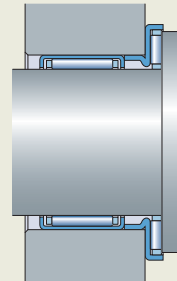

Fig. 14
- are used for applications where the shaft cannot be hardened and ground (fig. 14)